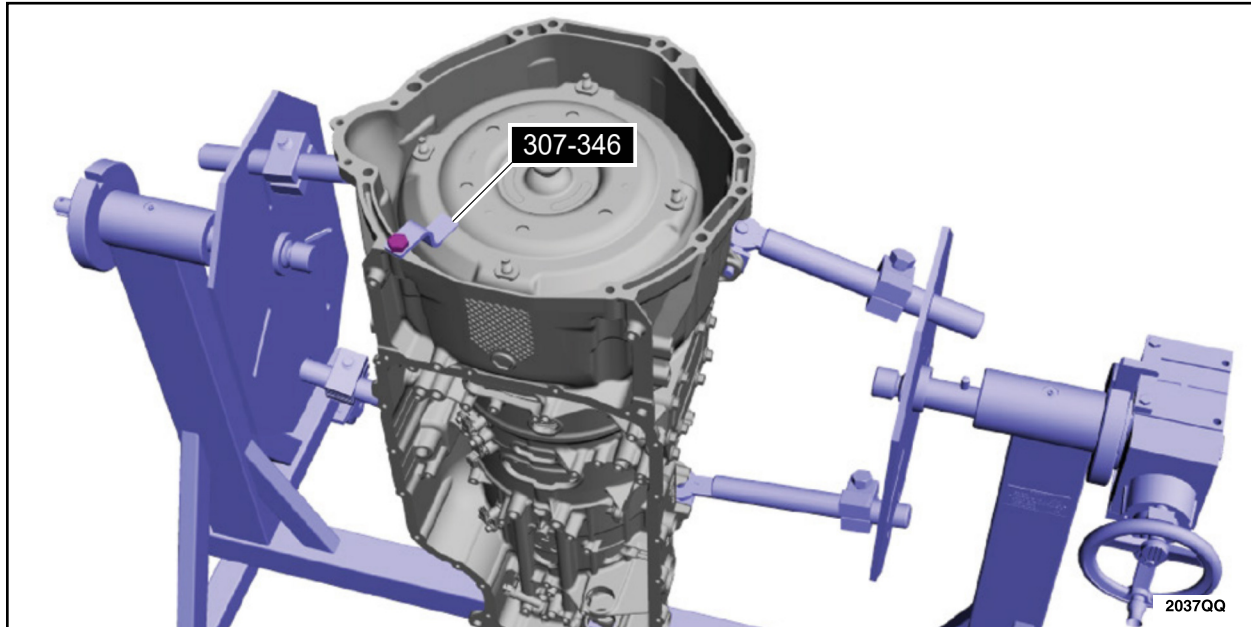

FIGURE 35
39. Install special tool 307-346 to hold the torque converter. See Figure 35.